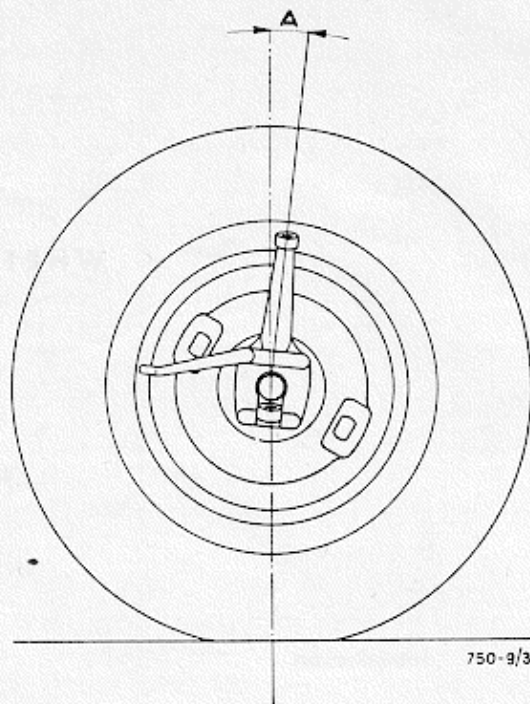

Fig. 3 - King-pin caster angle (Angle of inclination of the King-pin in relation to the vertical and measured according to the longitudinal axis of the vehicle)
- King-pin caster and slant (Figs. 3 and 4 respectively).